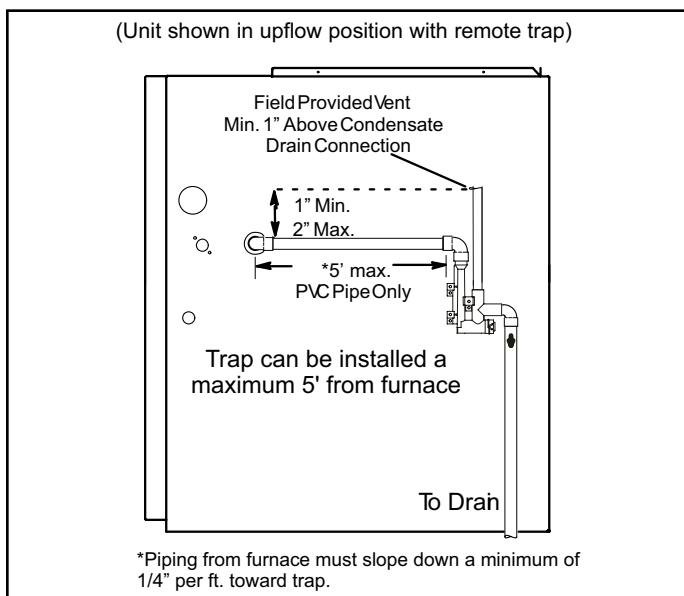
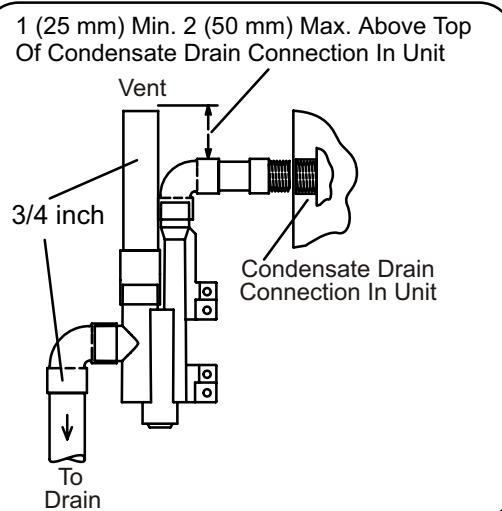

Figure 42. Condensate Trap Locations
Figure 50. Trap / Drain Assembly Using 1/2" PVC or 3/4" PVC
This unit is designed for either right- or left-side exit of condensate piping in upflow applications. In horizontal applications, the condensate trap must extend below the unit. An 8" service clearance is required for the condensate trap. Refer to Figure 41 and Figure 42 for condensate trap locations. Figure 49 and Figure 50 show trap assembly using 1/2" PVC or 3/4" PVC.
3. Install the cap over the clean out opening at the base of the trap. Secure with clamp. See Figure 49 and Figure 50.
4. Install drain trap using appropriate PVC fittings, glue all joints. Glue the provided drain trap as shown in Figure 49 and Figure 50. Route the condensate line to an open drain. Condensate line must maintain a 1/4" downward slope from the furnace to the drain.